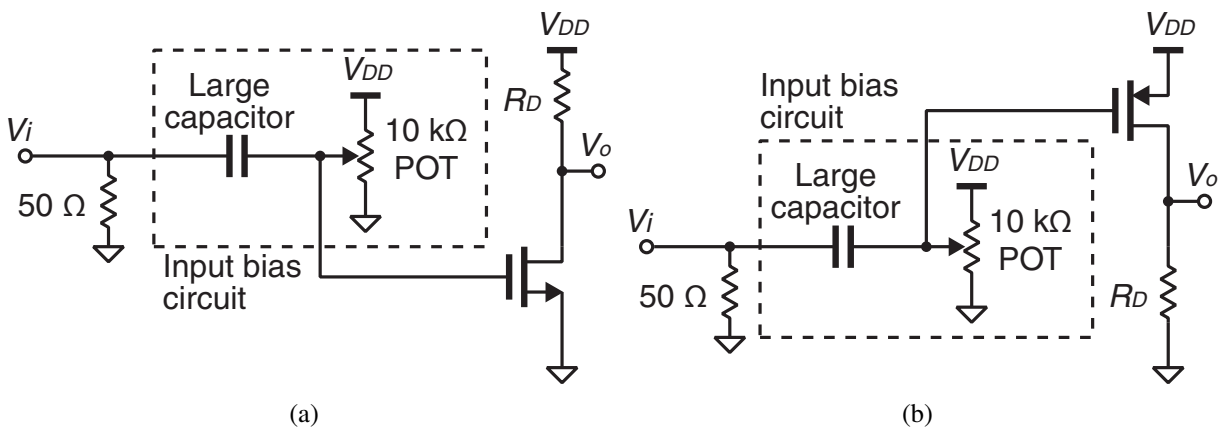

Figure 3: (a) NMOS and (b) PMOS common-source amplifiers with an input bias circuit.
2. Place the input bias circuit on the breadboard as shown in Figure 3, and tune the potentiometer for the input bias voltage found in the previous step. **This input bias circuit is used many times in future labs** so make sure you feel comfortable with it.